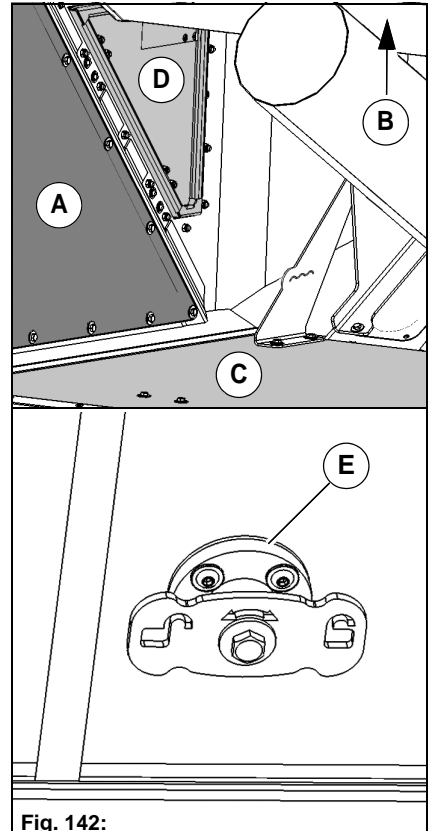

Fig. 142:
2. Half raise the dirt hopper and open the lock **Fig. 142-E** of the sump flap (hopper floor). Then bring the dirt hopper into its end position.
3. Clean the dirt hopper from the inside with a water hose or a high-pressure cleaner. Pay special attention to the lateral filter sieve **Fig. 142-A** and the filter sieve **Fig. 142-B** in the lid. The dirt hopper can also be cleaned through the side doors **Fig. 142-D**. The suction fan of the dirt hopper must be switched off so that the doors can be opened!
4. When the dirt hopper is raised, the valve of the settling tank **Fig. 142-C** opens. Clean the settling tank and flush the circulating water system thoroughly with water.